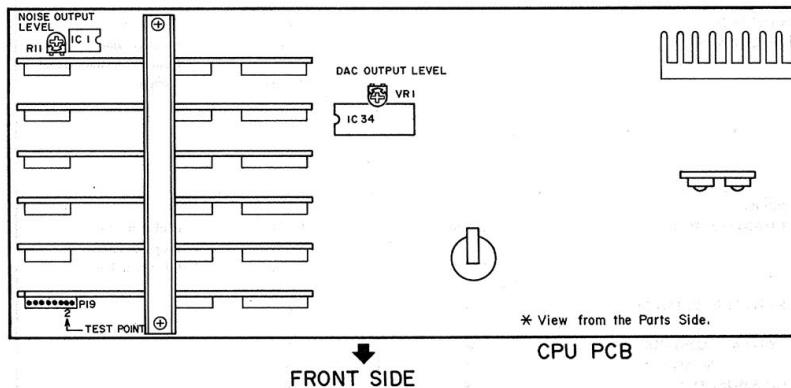

Fig. 4-27 Adjustment points of the CPU PCB
- 1) Select the library to "L03 [ V1, ]" and connect a digital DC voltmeter between pin ② of the connector P19 and GND (refer to Fig. 4-27).